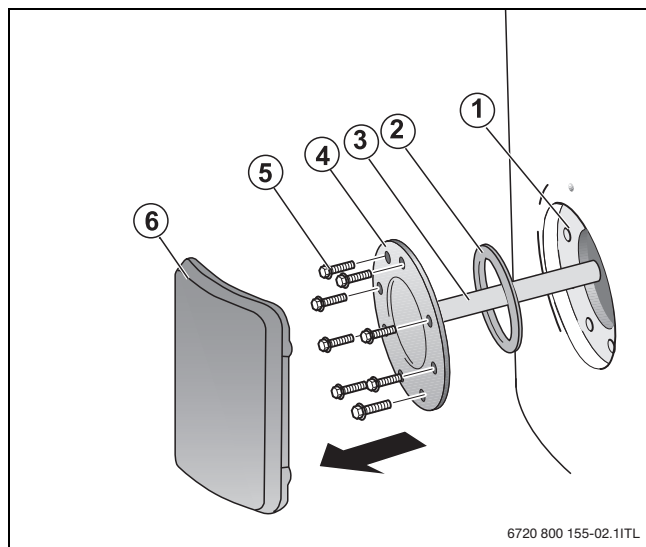

Fig. 19 Removing the cleanout cover
- Remove cleanout cover (→ Fig. 19, page 16), if it is not already removed.